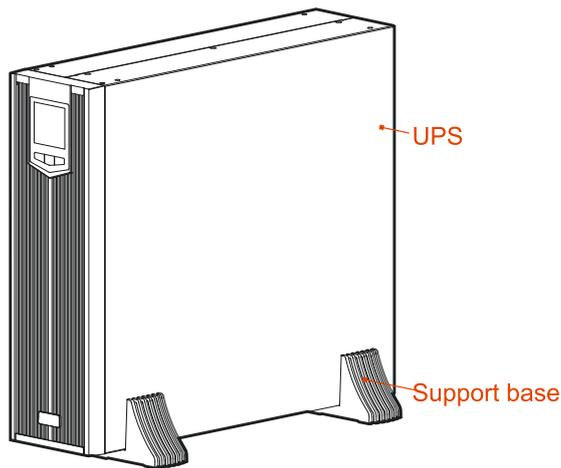

Figure 3-5 Install the UPS
Step 2 Put the UPS onto the assembled support base, as shown in Figure 3-5.